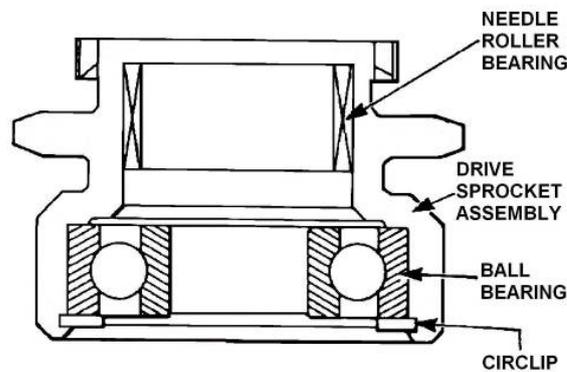

Figure 220 Removal of the Drive Sprocket Bearing
- f. Remove the internal circlip retaining the ball bearing to the chain driven sprocket, then carefully clamp the sprocket in the vice and tap the shaft to allow the sprocket and bearing to be removed (Figure 220). Using a suitable arbor, press out the needle roller and ball bearing.